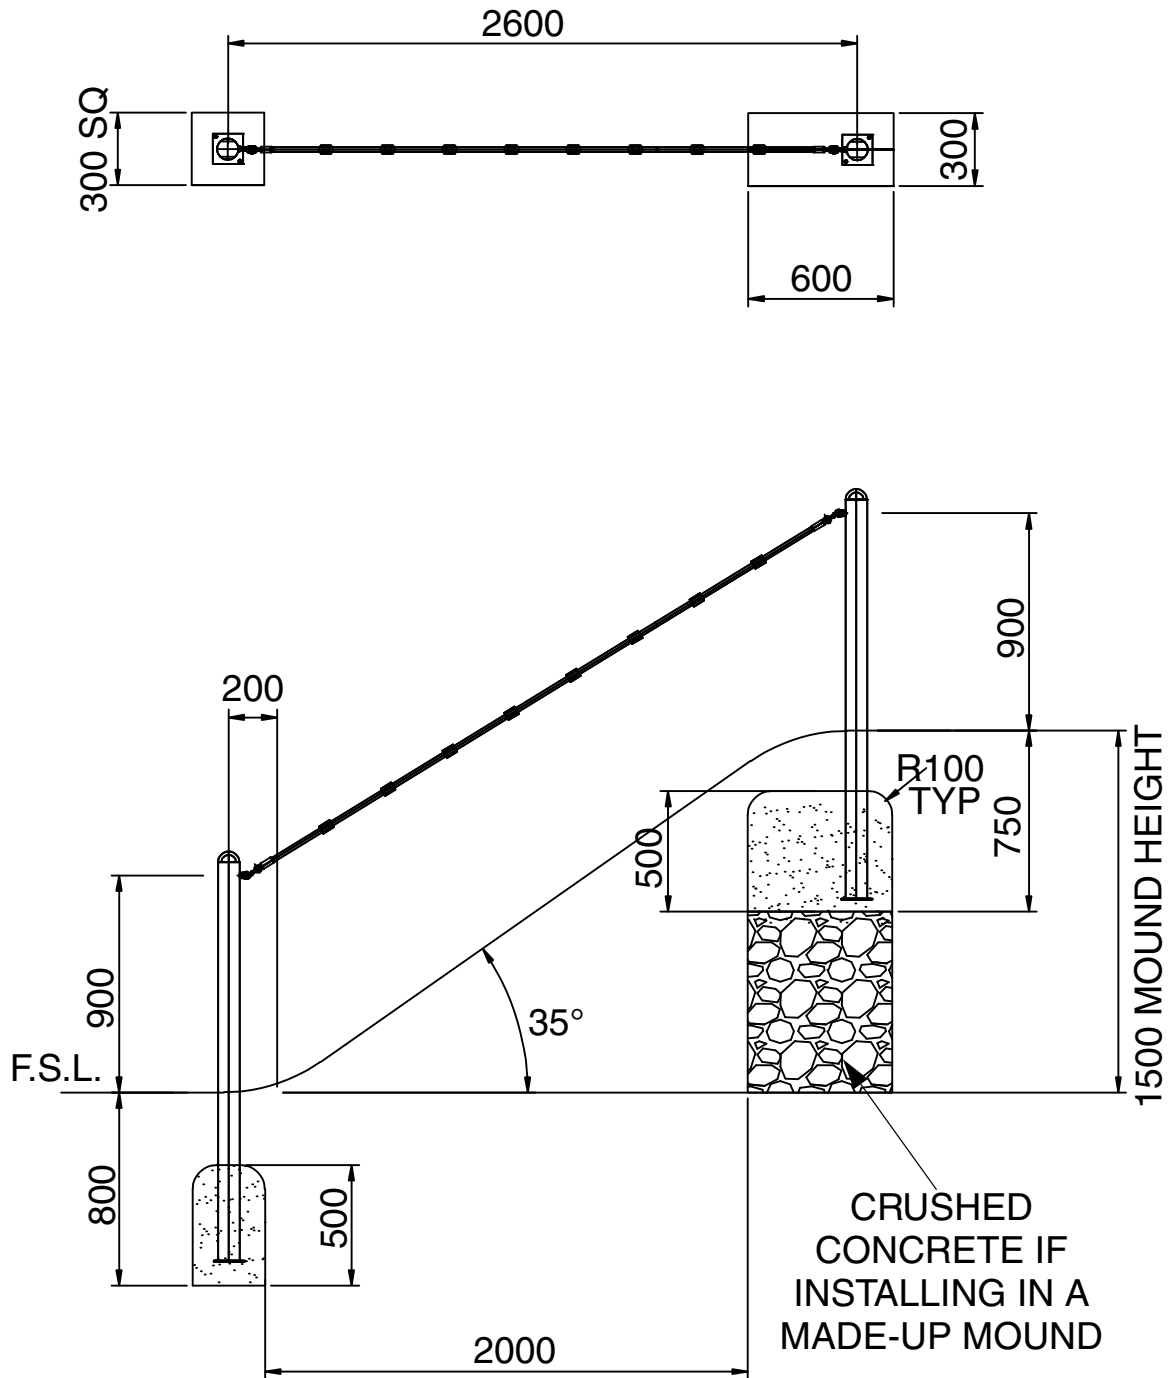

FIG.1 GRASS INSTALLATION
- ii) Mark out foundations and excavate holes. (refer to site plan for unit location) See FIG.1, 2 or 3 for concrete positions.